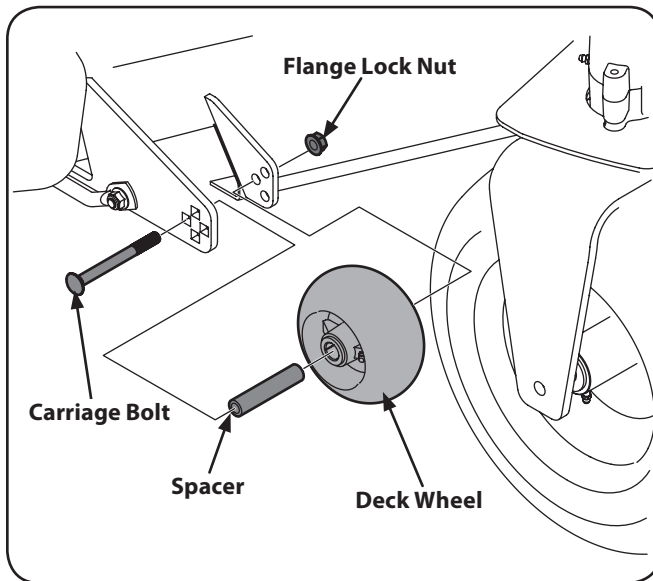

Figure 6-5
2. Remove the flange lock nut and carriage bolt securing the front deck wheel and spacer to the deck. Remove the wheel and carriage bolt. Refer to Fig. 6-5.